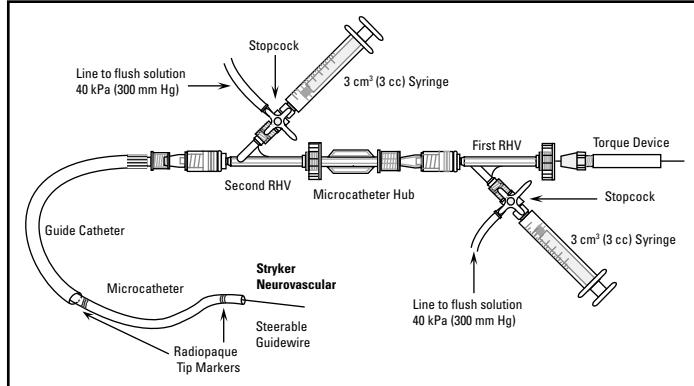

Figure 1. Example of Continuous Flush Setup
4. Slip torque device over proximal end of guidewire per Figure 1, and secure.
The recommended continuous flush set up is illustrated in Figure 1. The RHVs provide a fluid tight seal and are attached to the guide catheter and microcatheter. The stopcocks attach to the RHV sidearm, which become infusion ports for appropriate flush or contrast media injection.
- Open RHV thumb-screw and carefully introduce microcatheter and guidewire assembly through the guide catheter RHV (Second RHV in Figure 1). Tighten the O-ring valve around the microcatheter just enough to prevent back flow, but not so tightly as to inhibit microcatheter advancement.